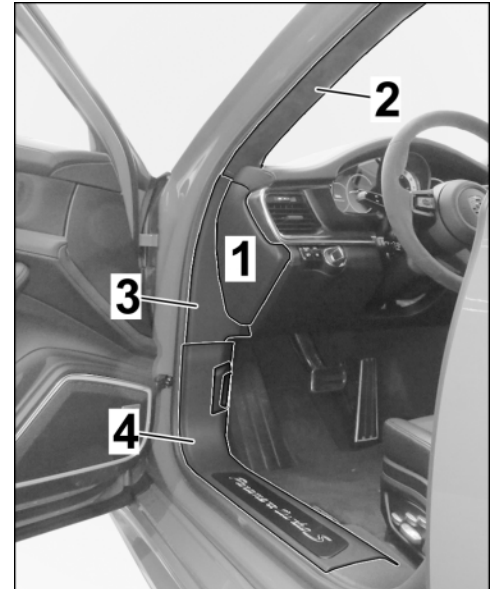

Figure 4
1.4 Expose A-pillar area (at the left ⇒ *Figure 4*)